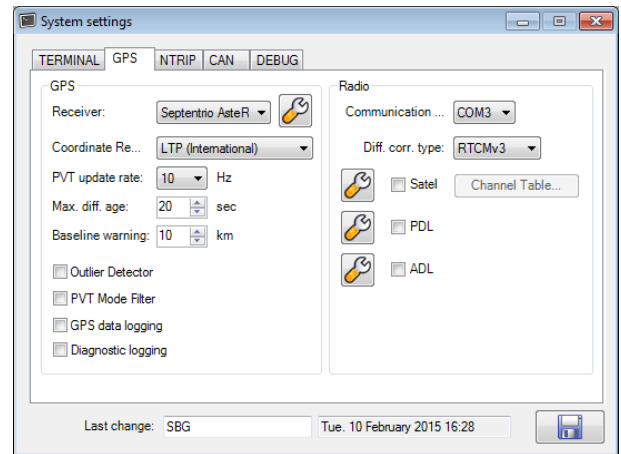

Figure 4 System settings GPS
3. Press the GPS tab (Figure 4). Receiver should be *Septentrio AsteRx4H (Viper 4)* in case of Viper 4 TWIN. When equipped with an internal radio modem, the *Satel* option should be checked.